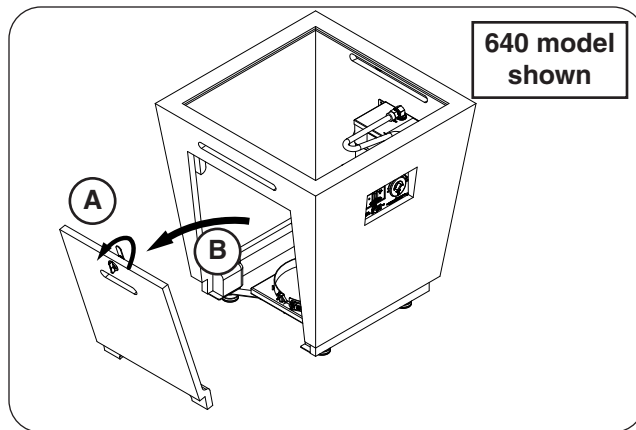

Fig. 29-1 Place base and remove door
1. **Carefully** remove the burner assembly from the base, then **carefully** place the base in an appropriate location (see Fig. 29-1, and refer back to the LOCATION section if needed).
2. Remove the storage door by first turning the door handle counter-clockwise, then carefully pulling the door outward (see Fig. 29-1). Store in a safe location.